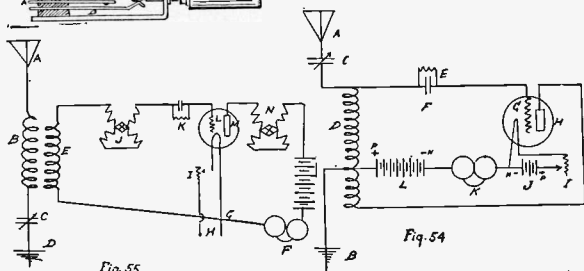

Fig. 54
**T**HIS set is one of the simplest that can be devised to use a vacuum tube detector and it may be set up by anyone at a lower cost than the ordinary crystal sets may be purchased, ready-made. Moreover, tuning in this set is simplified to the minimum, there being but two adjustments to be made, the variable condenser and the rheostat. The whole set is plainly shown in *Fig. 54*. *A* being the aerial, *B* the ground, *C* the variable condenser, *D* the inductance, *E* the grid-leak, *F* the fixed condenser, *G* the grid, *H* the plate of tube, *I* the rheostat, *J* the six volt battery, *K* the phone receivers and *L* the 22 volt B-battery.